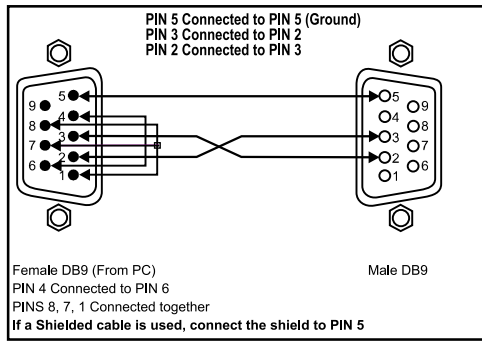

Figure 2: Connecting a PC without using a Null-modem Adapter
- Connect the RS-232 DB9 port on your PC to the RS-232 DB9 rear panel port on the **SP-10D** unit, as Figure 2 illustrates